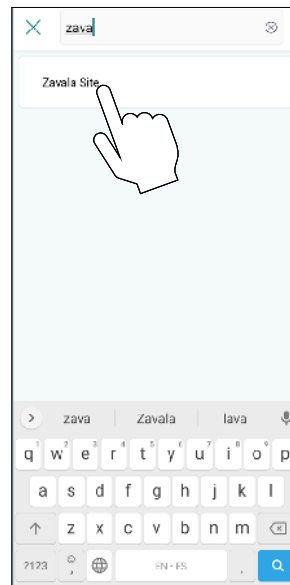

Figure 121. Choose Organization
4. “Choose organization” screen will be displayed and it will show all the available organizations. Navigate the sub Organization list or use the search tool to locate desired organization. See **Figure 121**.